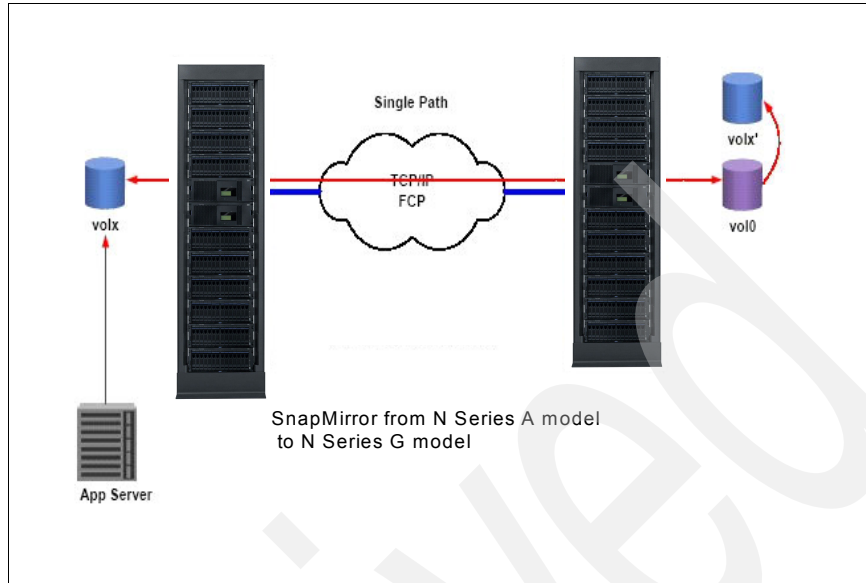

Figure 1-48 SnapMirror interoperability
- Replication between SnapMirror on G model SnapMirror on A model, as shown in Figure 1-48 on page 59. Includes async, semisync, and synchronous